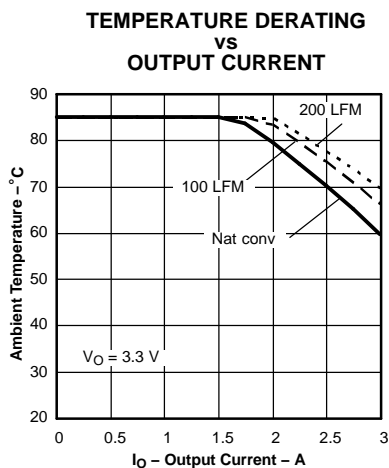

Figure 4.
- (2) The temperature derating curves represent the conditions at which internal components are at or below the manufacturer's maximum operating temperatures. Derating limits apply to modules soldered directly to a 100 mm x 100 mm, double-sided PCB with 2 oz. copper. Applies to Figure 4.